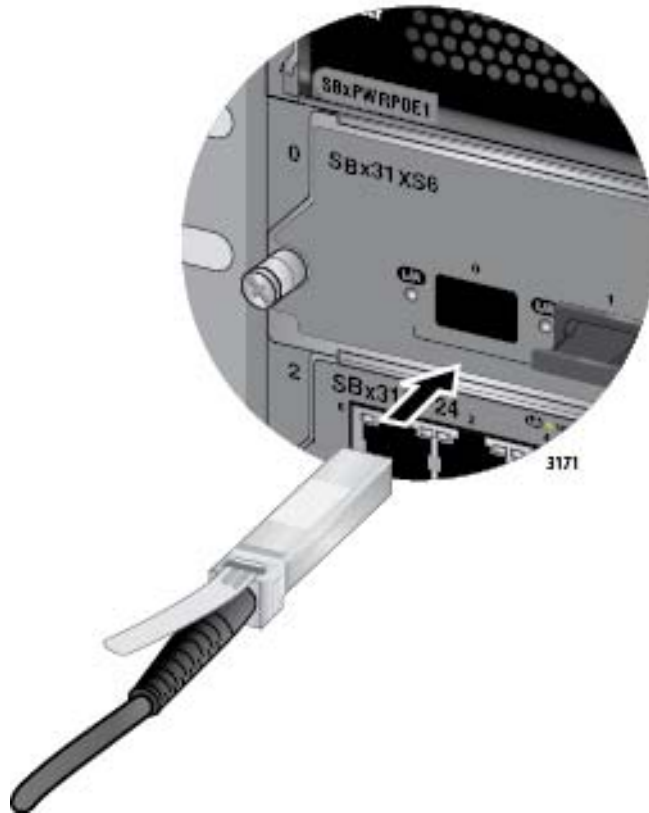

Figure 100. Installing the AT-SP10TW Cable in the AT-SBx31XS6 Line Card
3. Slide the connector into the slot until it clicks into place, as shown in Figure 100 on page 159.